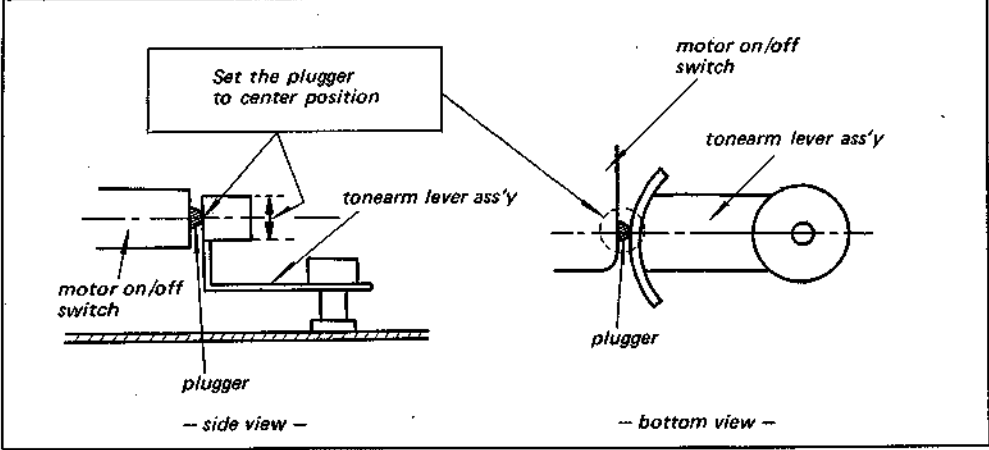

Fig. 2-19. Tonearm installation
- b) Adjust the height of tonearm by moving the tonearm up and down until the optimum result is obtained as shown in Fig. 2-19.